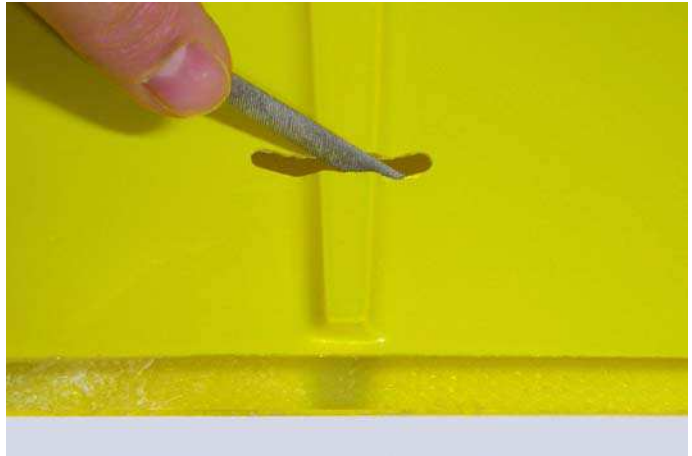

Fig.26: Remove the roughness.
- Using a file (convex section), remove the roughness of the slot (see figure 26);